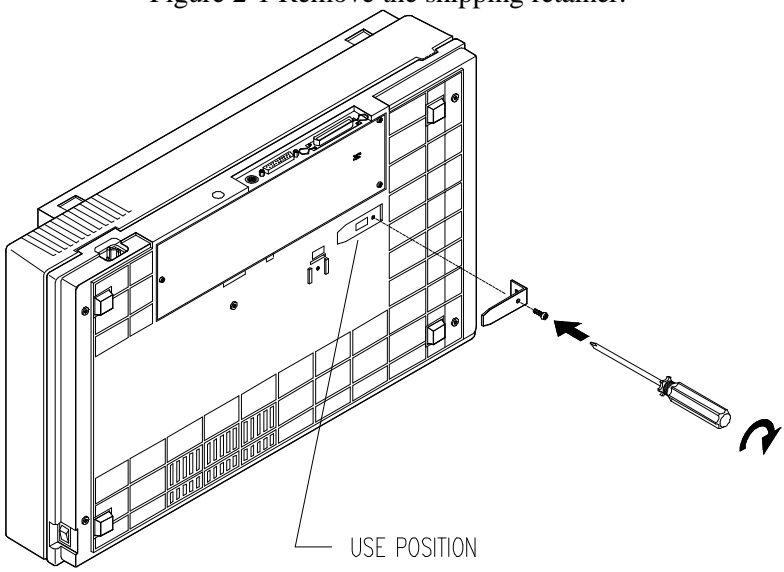

Figure 2-2 Fix the shipping retainer at the “use position.”
3. Pull out the shipping retainer, put it in the “use position” slot next by and there fix it with the screw. (See Figure 2-2)